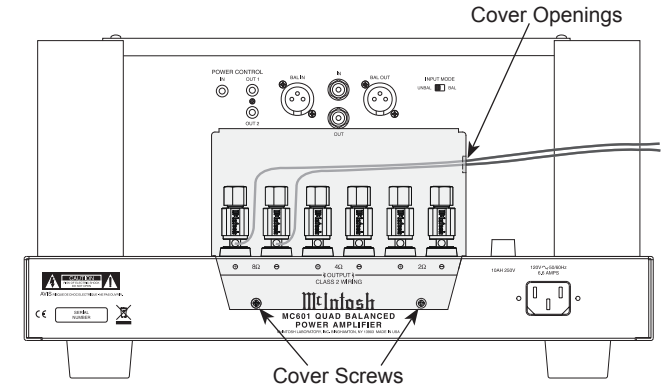

Figure 6 (Outside USA and Canada)
11. Locate the Terminal Connections Cover from the inside of the MC601 shipping carton. Insert the just prepared Loudspeaker hookup cables thru the cover opening on the right side. Refer to figure 6.
Note: The illustration in figure 6 is connections for 8Ω (ohms) Loudspeakers.
13. Attach the Terminal Connections Cover to the MC601 Rear Panel with the previously removed Screws. Refer to figure 6.